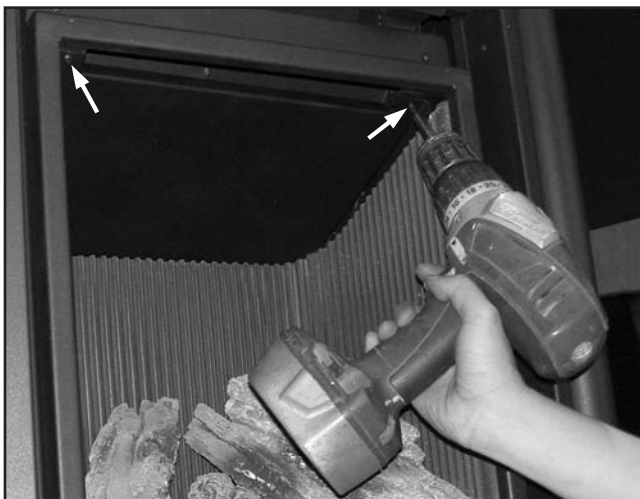

Figure 12: Firebox Baffle Screws Removal.
2. Remove the two (2) Torx T-20 screws holding the front of the firebox baffle in place (refer to Figure 12). **IMPORTANT:** The baffle should be held in place when the screws are removed to prevent it from falling, which could damage the firebox liner, log set, or rock set.